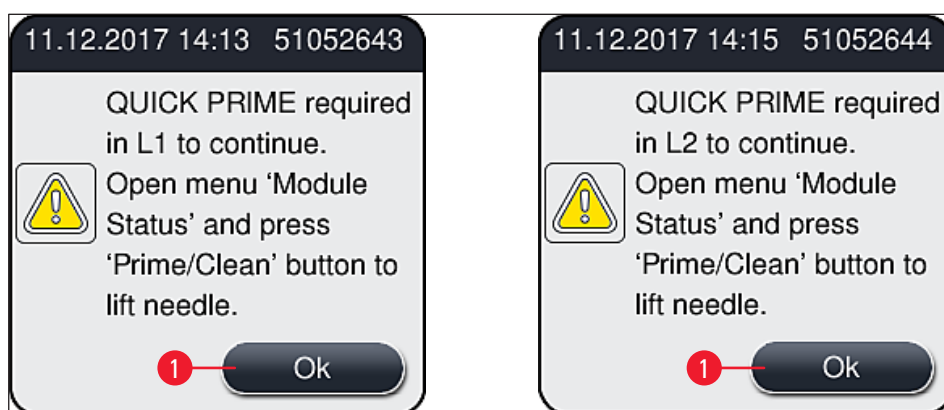

Fig. 52
- ① After completing the initialization phase, the main menu (→ Fig. 20) appears on the screen. and the user is informed (→ Fig. 52) that a **Quick Prime** is required for the coverslip line in use. Acknowledge the messages by pressing **Ok** (→ Fig. 52-1) and follow the instructions that follow (→ P. 122 – 7.3 Preparing the hose system for priming and cleaning).